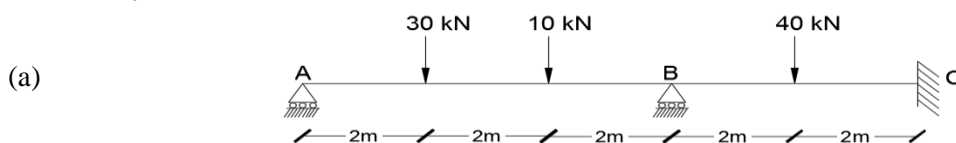

Fig.8
10. Analyse the continuous beam shown in **fig.8** by using Stiffness matrix method. **14M**